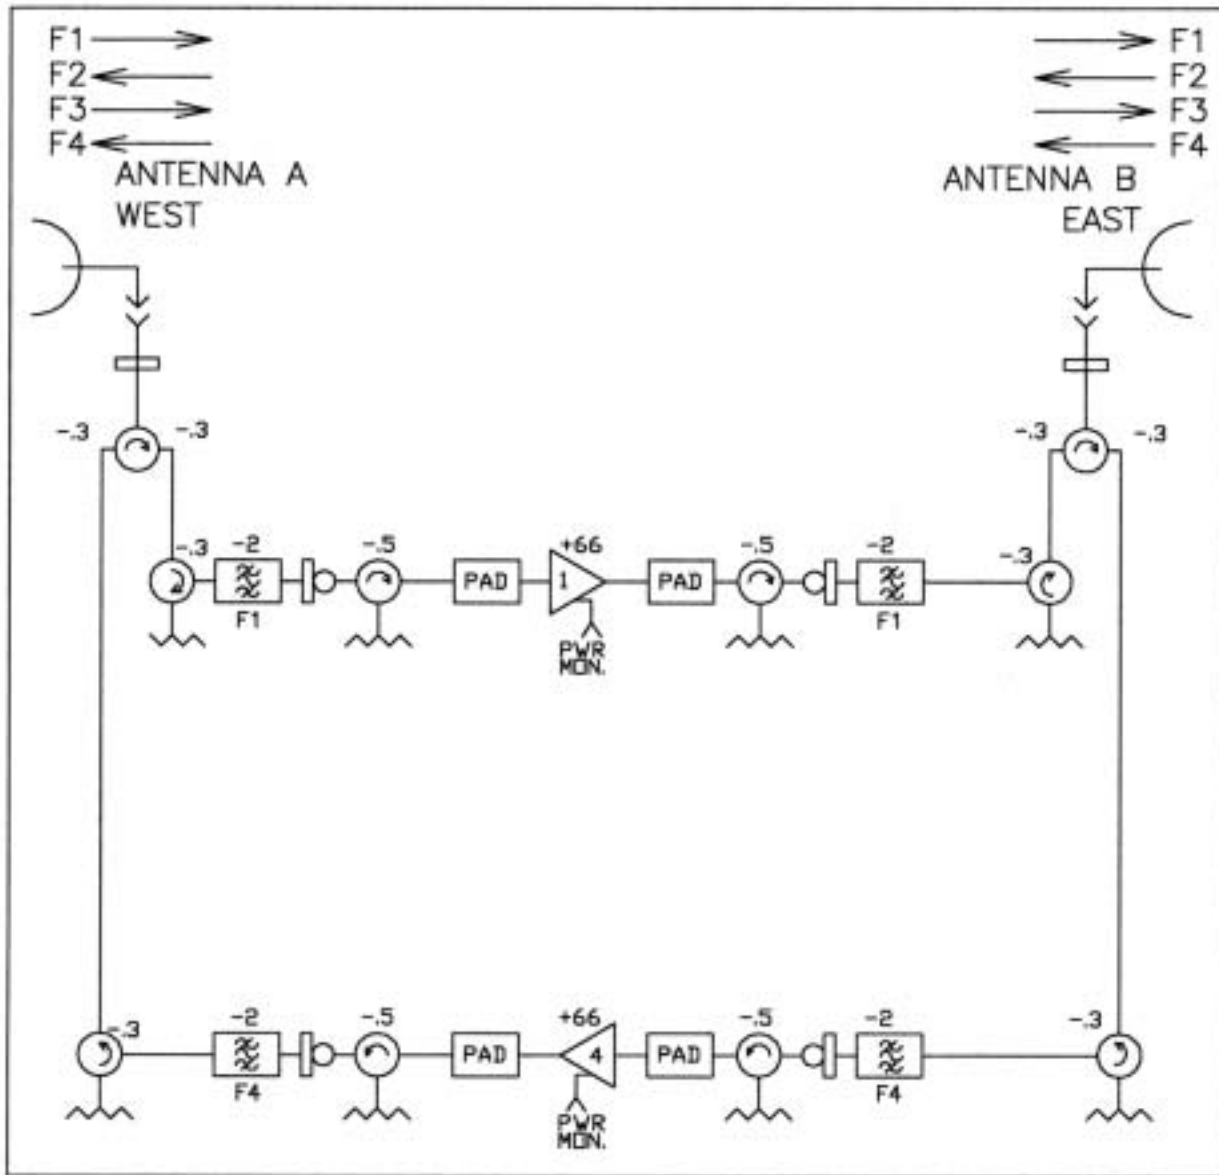

Figure 1.3 RF-13000-01, (1+0), Equalized (optional pads shown)
- The RF-13000 duplex Repeater uses internally redundant amplifiers for transmission in each of two directions. Each amplifier is powered by two separate battery supplies for added reliability. Bandpass filters and circulators, which form a duplexer network, direct the receive signals to the amplifiers and combine the amplifier outputs to a common antenna port for transmission in each direction (see Figures 1.3 and 1.4). Dual polarized antenna port Repeaters are available.